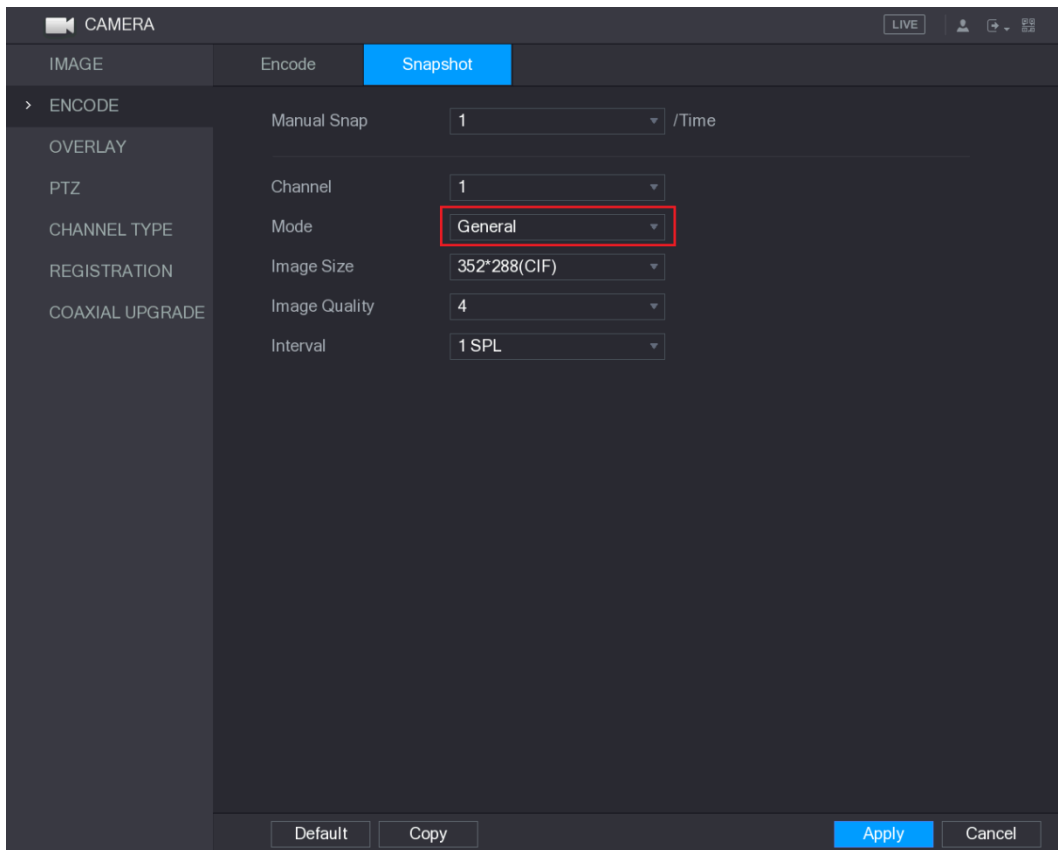

Figure 5-89
Step 5 In the **Mode** list, select **General**, and then configure other parameters. See Figure 5-89.